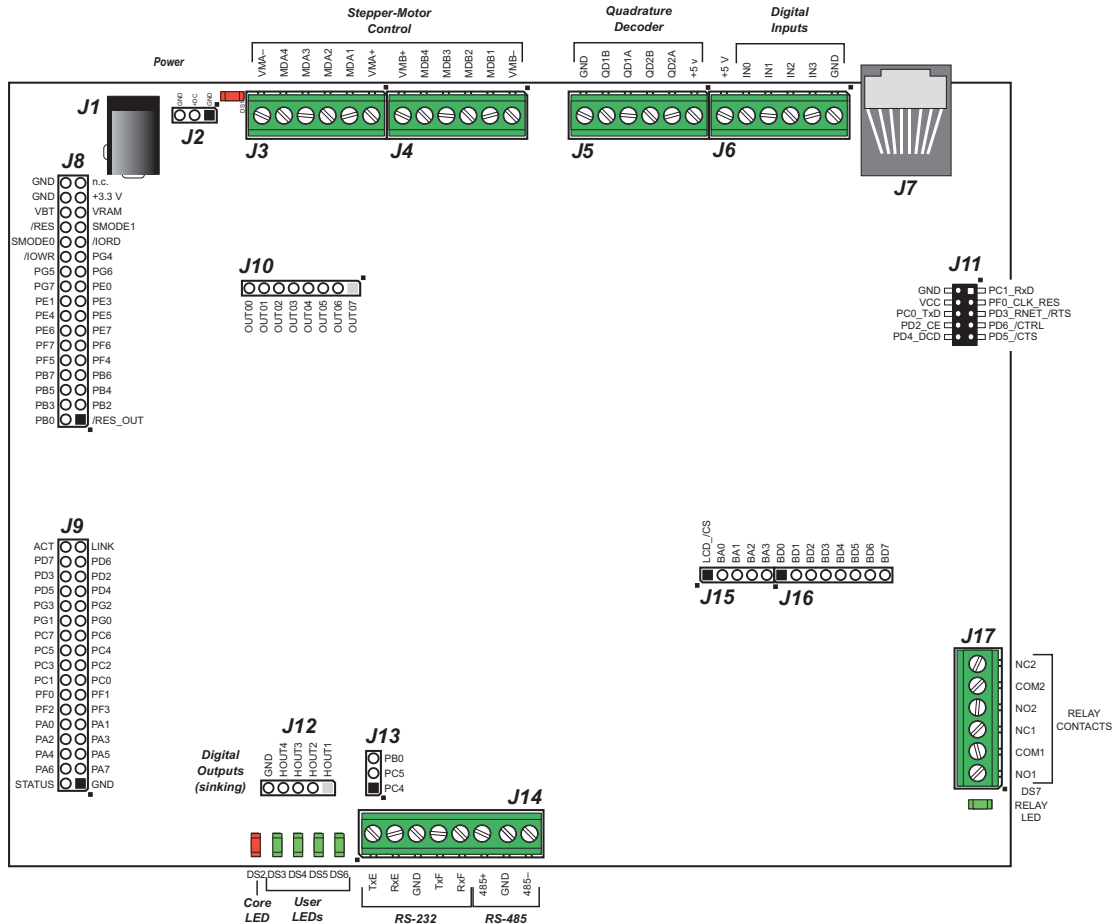

Figure B-4. Prototyping Board Pinout
- **Module Extension Headers**—The complete pin set of the RCM3900 module is duplicated at headers J8 and J9. Developers can solder wires directly into the appropriate holes, or, for more flexible development, 2 × 17 header strips with a 0.1" pitch can be soldered into place. See Figure B-4 for the header pinouts.
- **Digital I/O**—Four digital inputs are available on screw-terminal header J6. See Figure B-4 for the header pinouts.
- **Quadrature Decoder**—Four quadrature decoder inputs (PF0–PF3) from the Rabbit 3000 chip are available on screw-terminal header J5. See Figure B-4 for the header pinouts.
- **H-Bridge Motor Driver**—Two pairs of H-bridge motor drivers are supported using screw-terminal headers J3 and J4 on the Prototyping Board for stepper-motor control. See Figure B-4 for the header pinouts.
The Prototyping Board pinouts are shown in Figure B-4.